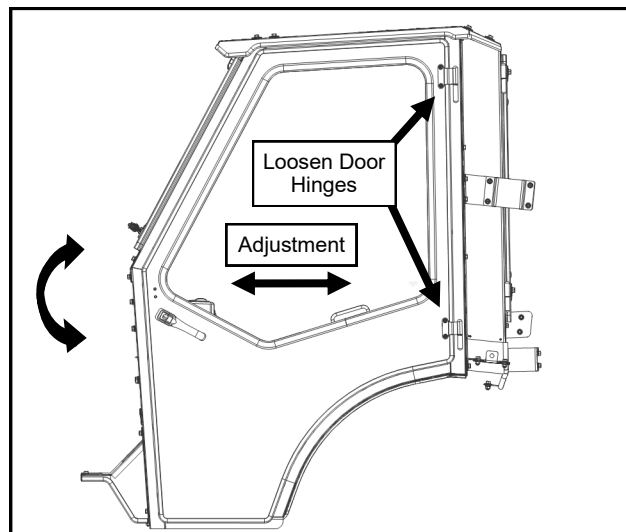

Fig. 25.3a (Door Hinge Adjustment)
25.3 Loosen the door hinges to allow for adjustment later. While lifting up and forward on the door handle, line up the door latch with the striker pin and carefully attempt to latch. You should be able to hear 2 clicks as you slowly engage the latch on the pin. If the latch is too far forward or back to latch on the pin, adjust as shown. See Figures 25.3a through 25.3c. Then retighten and latch.